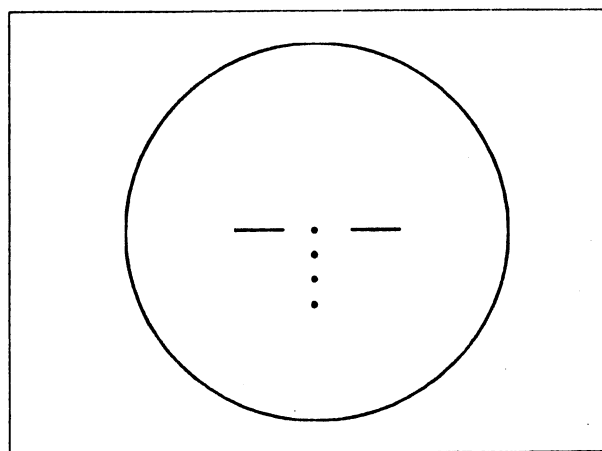

Fig 2-13. Aiming points.
- (2) Aiming points. Once you have made your range estimate, you know which aiming point to use. Look at figure 2-13. Notice in the center of the reticle pattern for the M240G there are two short horizontal lines with four dots centered in a column under them. The area between the two lines is the aiming point for close ranges. The first dot is for ranges of 400 meters, the second dot is for ranges of 600 meters, the third dot is for ranges of 800 meters, and the final dot is for ranges of 1,000 meters.